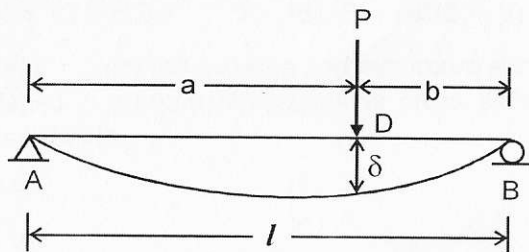

Figure 9
- (c) A simply supported beam AB carries a concentrated load " P " at point D as shown in Fig.9. Find the deflection δ of the point D from the cord line AB and the angle " θ_A " between this cord line and the tangent at A by conjugate beam method.